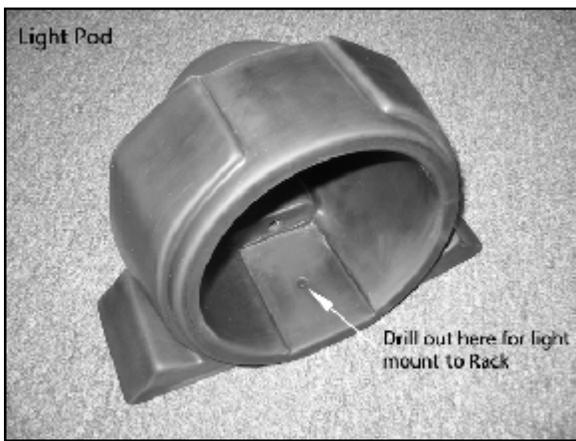

Fig.3
5. Drill mounting hole in Light pod as shown in Fig.3. Verify alignment with cover and rack as per fig.4